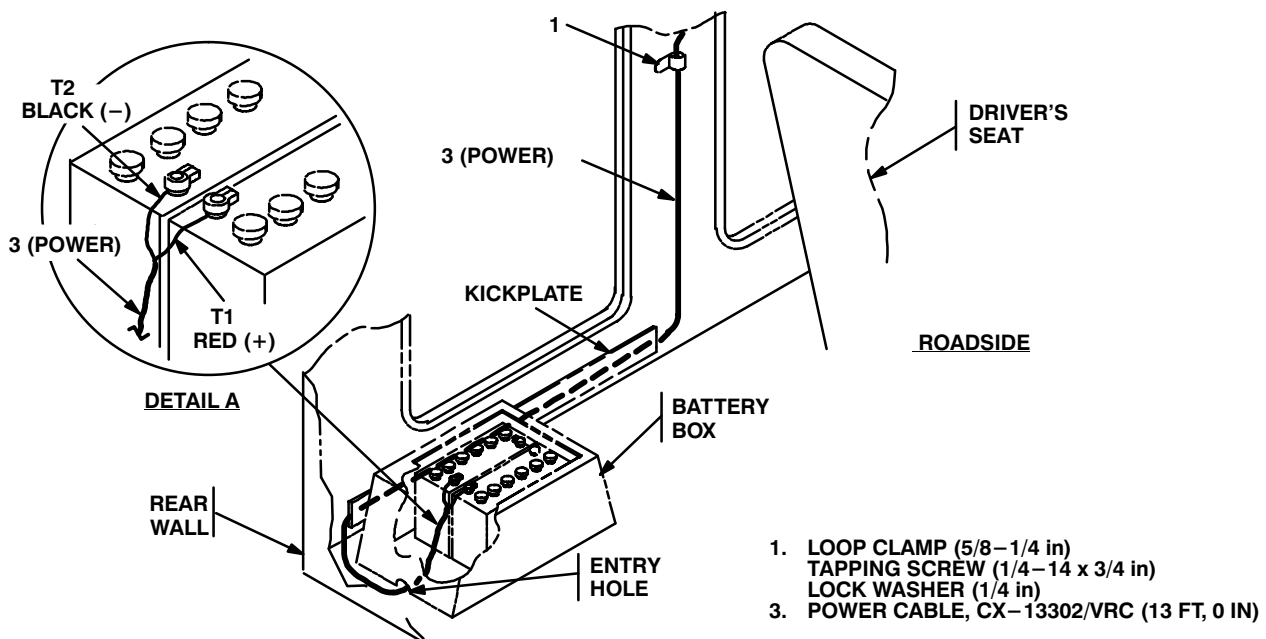

Figure 5-5 (2). Cable Installation: Power Cabling
i. Loop clamp (1), pan-head tapping screw (1/4-14 x 3/4 in) and lock washer (1/4 in).	Wrap clamp around power cable (3); then install to hole drilled in step h.	Tools: Phillips screwdriver.
j. Power cable (3).	Route behind roadside kickplate to battery box. See figure 5-5 (2).